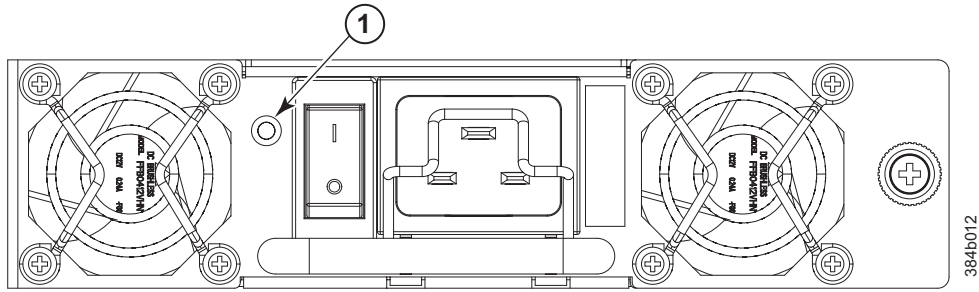

Figure 29. Power supply
1. Check the LED indicators on each power supply (see Figure 29 on page 66). The LED patterns may temporarily change during POST and other diagnostic tests; for information about how to interpret the LED patterns, see Table 12 on page 66. Be sure to check both power supplies.